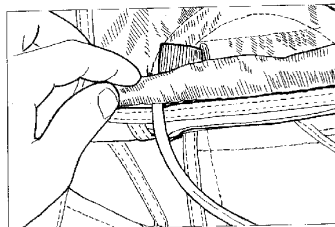

Figure 14
- 2.8 Re-install the Teflon tube in the channel. Fig. 14. On the Flexon, the teflon tube must be handtacked in place. On the Talon, it is not handtacked. Make sure you do not crush the tube. If the tube is damaged, it must be replaced. The cutaway cable must be able to slide freely thru the tube.